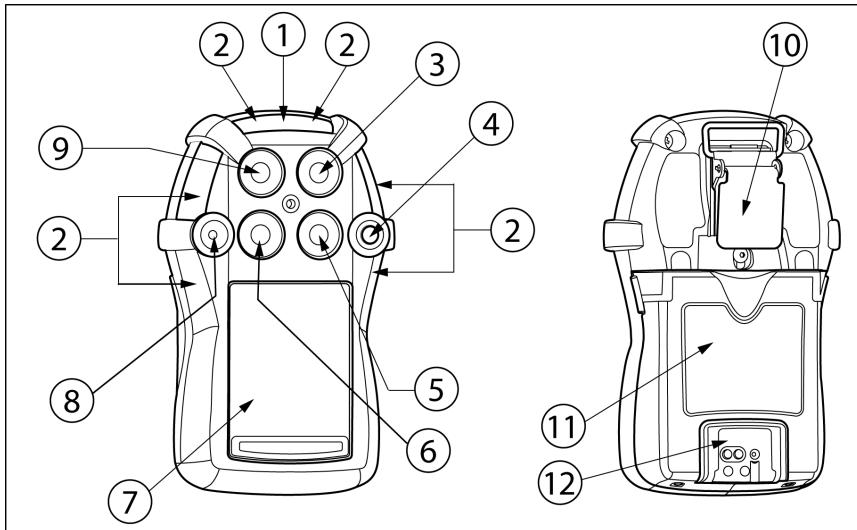

Figure 1. Parts of the GasAlertQuattro
- Figure 1. and Table 4. describes the detector's components.